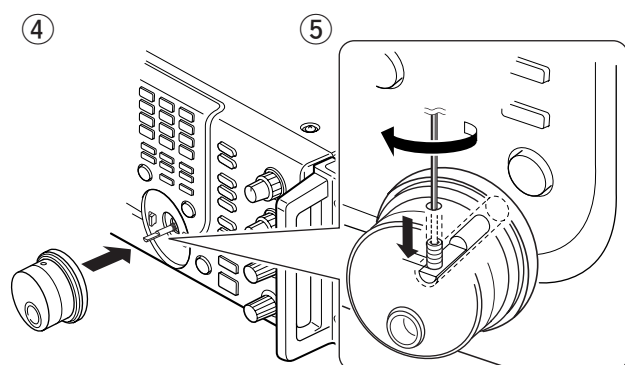

Fig. 3
- ④ Attach the main dial as illustrated (Fig. 3).
- ⑤ Tighten the screw using supplied hexagonal wrench as illustrated (Fig. 3).